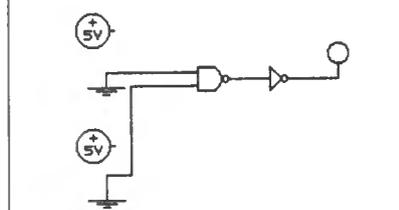

Fig. 7.23 NAND gate with inverted output (Assignment 7.2).
3. Connect the circuit shown in Fig. 7.23. The output of the circuit is connected to a logic level indicator whilst the two inputs are derived from +5V and ground points. Switch on the power and test the circuit by constructing its truth table.